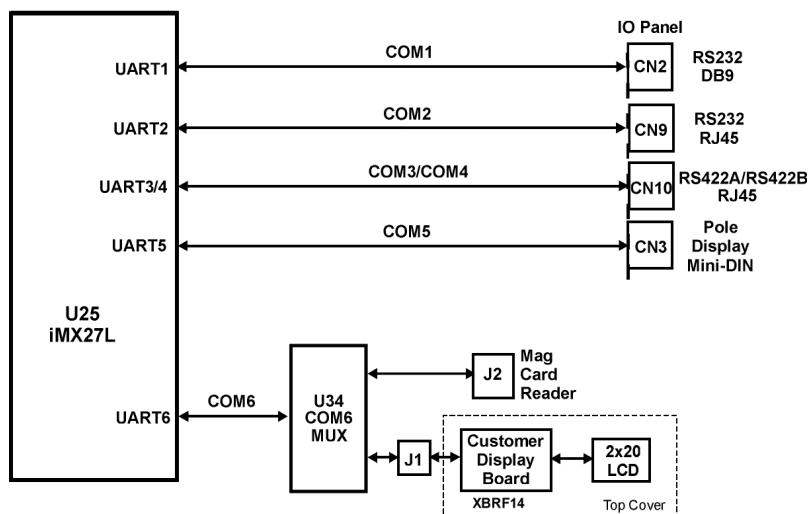

Figure 2-13: KW270 COM Port Assignments
The UART transmits and receives characters that are either 7 or 8 bits in length (programmable). To transmit, data is written from the peripheral data bus to a 32-byte transmitter FIFO (TxFIFO). This data is passed to the shift register and shifted out serially to the TX pin. To receive, serial data appears at the receiver pin (RX) and stored in a 32-half word deep receiver FIFO (RxFIFO). The received data is retrieved from the RxFIFO and placed on the peripheral data bus. Figure 2-13, below displays the KW270 COM Port assignments.